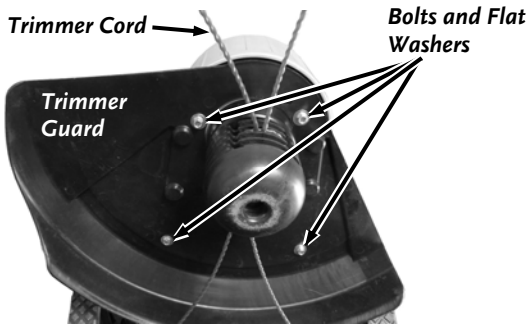

Figure 33
3. Remove the four Trimmer Guard Bolts and Flat Washers with a 3/8" Wrench. Remove the Trimmer Guard (Figure 33).
23. Position the Trimmer Guard and secure with the four Bolts and Flat Washers using the 3/8" Wrench (**Figure 33**).